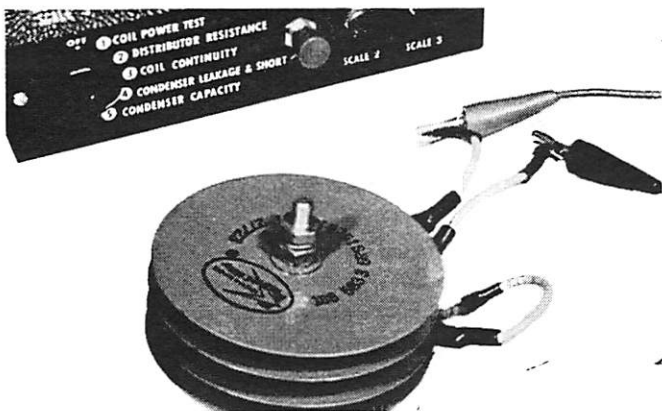

Figure 1. Testing Rectifier
3. Use Merc-O-Tronic Tester (91-25213) set to scale No. 3, (Figure 1)
(By Measuring Direct Current Resistance on Magneto Analyzer) (Figure 1)